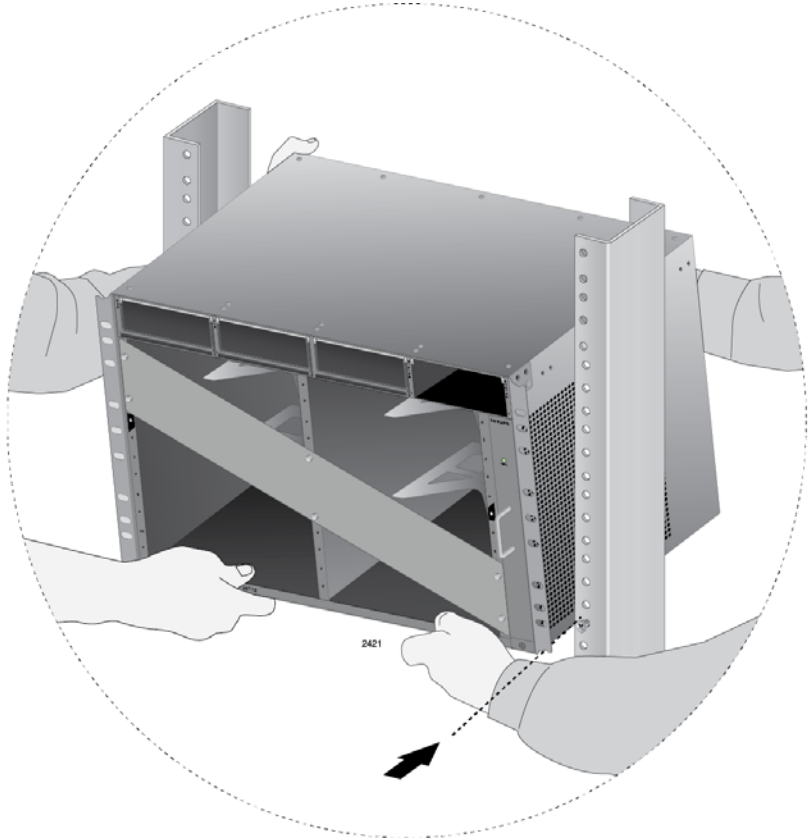

Figure 34. Lifting the AT-SBx8112 Chassis into the Equipment Rack
2. Do not mount any other equipment within 152.4 mm (6") above this space during installation. This additional vertical space is temporary and allows you enough room to lift and tilt the chassis into its position in the equipment rack without hitting other equipment, as shown in Figure 34 on page 99. You may use this additional space for other network equipment after the chassis is installed.
1. While facing the front of the chassis, tilt the top of the chassis toward you, as shown in Figure 34 on page 99.
2. Lift the AT-SBx8112 Chassis into the equipment rack and set the bottom of the equipment rack brackets firmly on the two equipment rack screws you installed in “Preparing the Equipment Rack” on page 91, as shown in Figure 34.